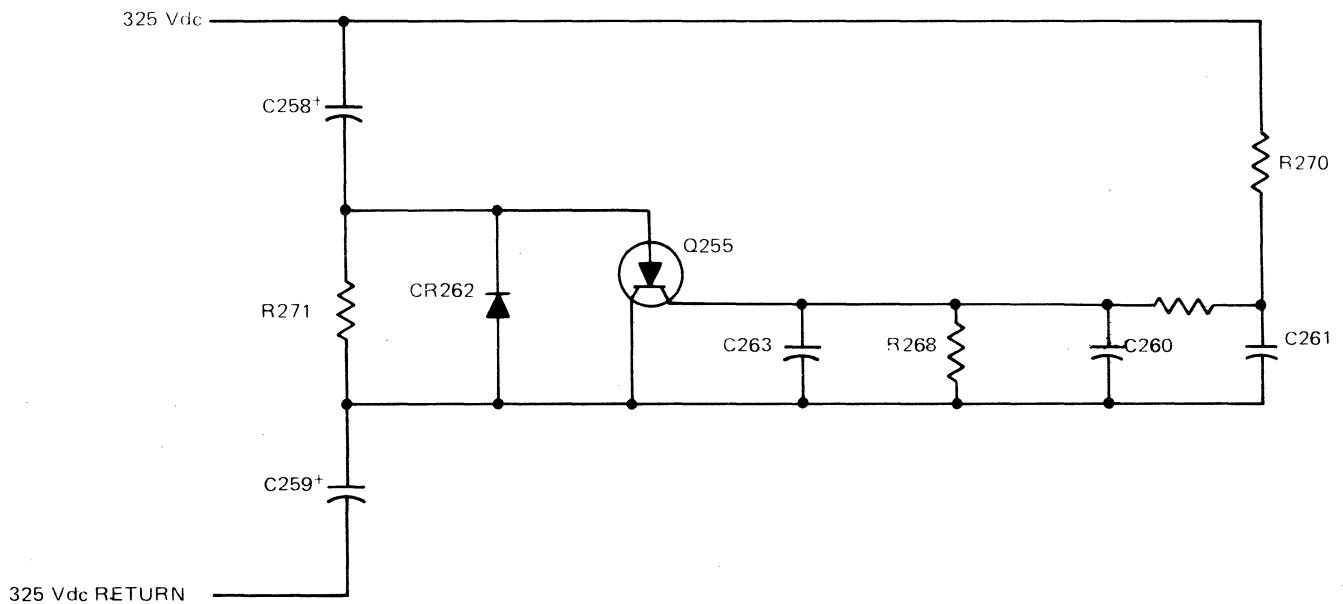

Figure 4-4. Soft-Start Circuit
4.2.2 SOFT-START CIRCUIT. During power-up initial current surge is limited by resistor R271 in the soft-start circuit as shown in Figure 4-4. After a safe period, when capacitors C258 and C259 are charged, SCR Q255 fires and bypasses R271 for more efficient operation. Resistors R269 and R270 with capacitor C261 provide the RC time constant delay used to fire the soft-start SCR. R268 and C260 filter the voltage on the gate of Q255. CR262 provides a low-impedance path around R271 when C258 and C259 discharge.